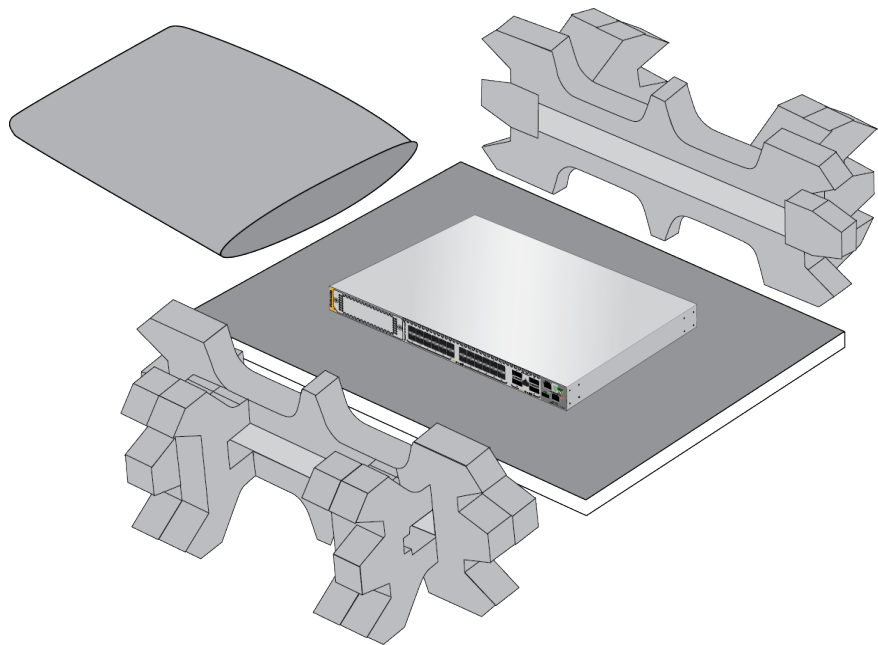

Figure 49. Removing the Switch from the Shipping End-caps and Protective Bag
4. Remove the switch from the shipping end-caps and protective bag. Refer to Figure 49.